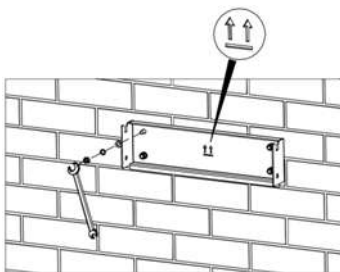

Figure 4.9 Fix the installation bracket
- (4) Fix the installation bracket onto the expansion bolts and ensure the installation is firm enough (tightening torque is $13\text{N}\cdot\text{m}$). As shown in Figure 4.9.